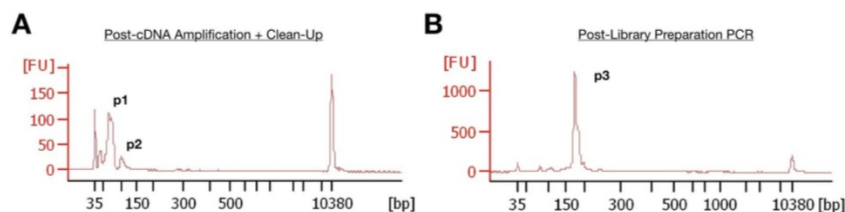

Figure 1. This is part of Supplementary Figure 9 of paper:
-I would recommend to determine what's the optimal amount of CMO or LMO/number of cells or nuclei in your hands. For GM12878 cell line I used 200 nM for nuclei and managed to get very good libraries. You may also want to test 200 nM versus 500 nM and see which is best for your sample. From Supplementary Figure 1, panels A and C, 200 nM seems to be enough.